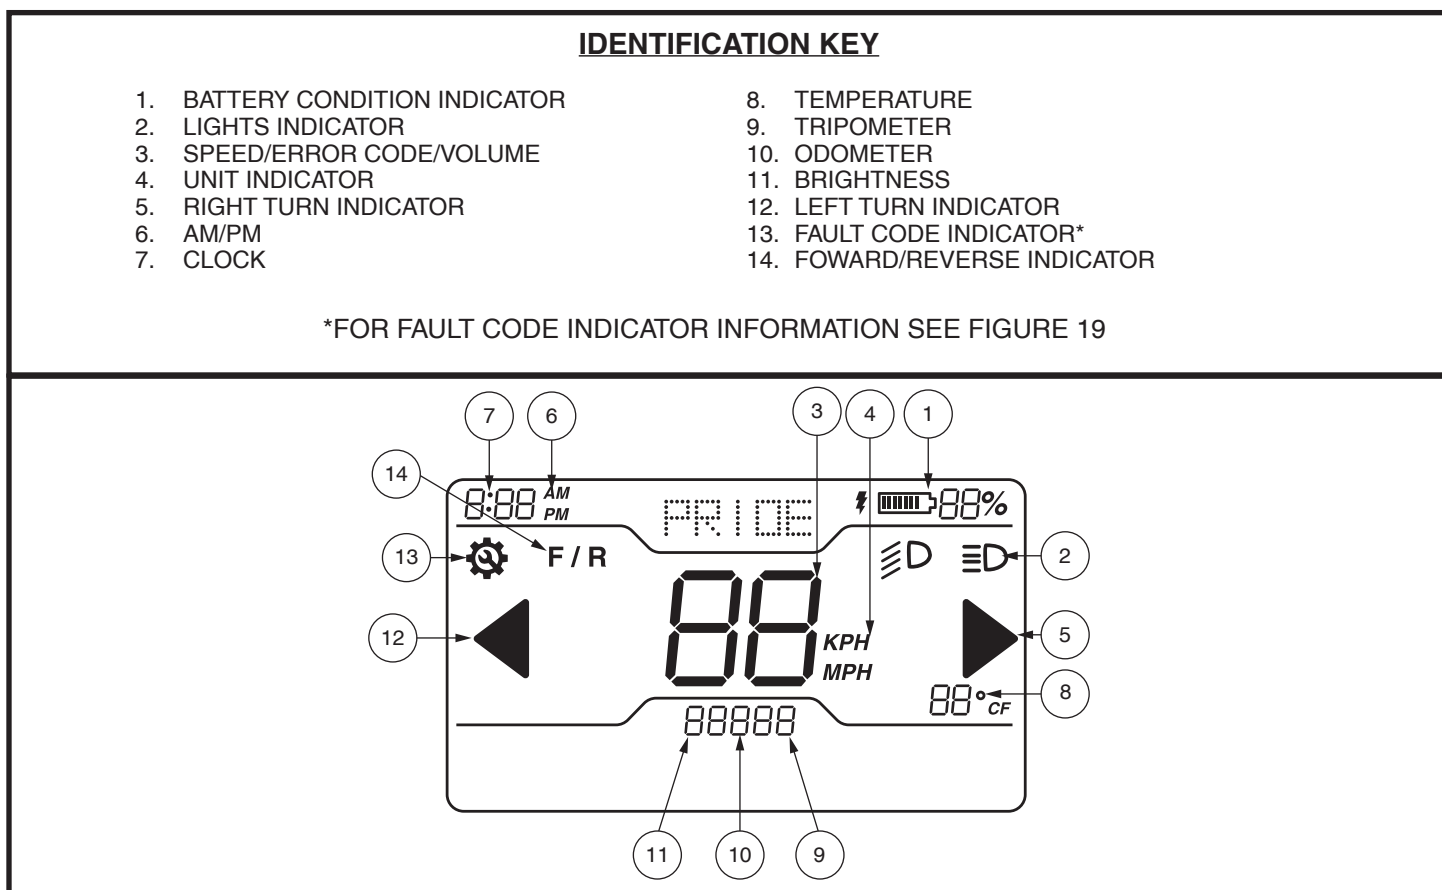

Figure 3. LCD Screen
**FOR LCD SCREEN INFORMATION SEE FIGURE 3.
The LCD control panel offers easily intuited feedback information via the LCD screen. See **figure 3**. The LCD screen may also be used during the set-up (activation) of the various control panel settings. See **chart 1**.